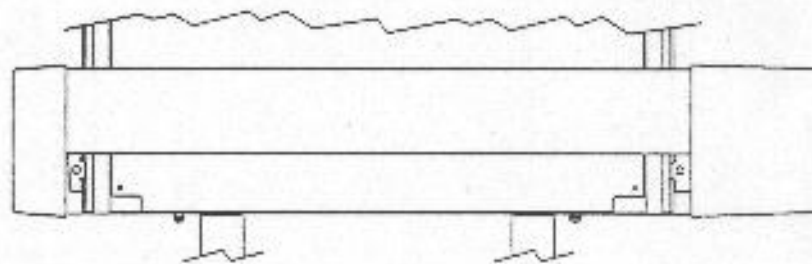

Figure 2: Properly aligned table (top view).
2. The four cable brackets need to be adjusted so that the table is square to the platen. See Figures 2 and 3. Loosening a screw on either corner of the front edge of the Appli-K causes that corner of the table to move away from the body of the machine (and vice-versa for tightening). **Before tightening a screw, it is recommended that the screw at the other end of the cable be loosened.**